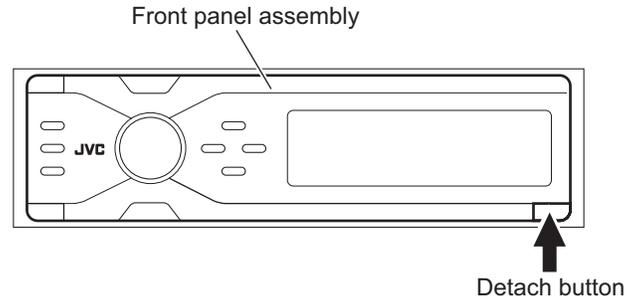

Fig.1
3.1.1 Removing the front panel assembly (See Fig.1)
3.2.1 Removing the mechanism control board (See Fig.1)